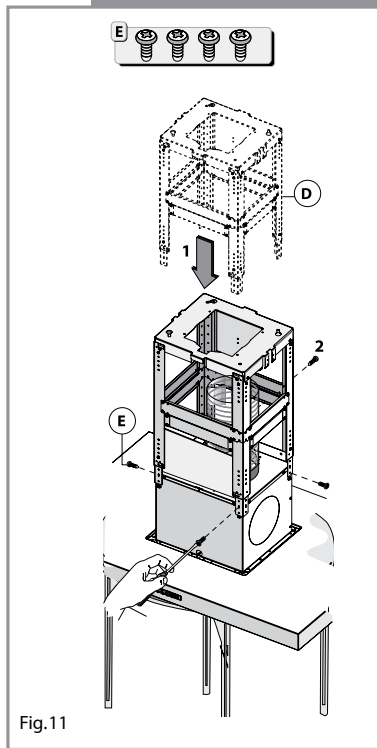

Fig.11
1. Place the extractor body on a table and fix the support sections (D) using the supplied screws (E) as shown in fig 11 below.